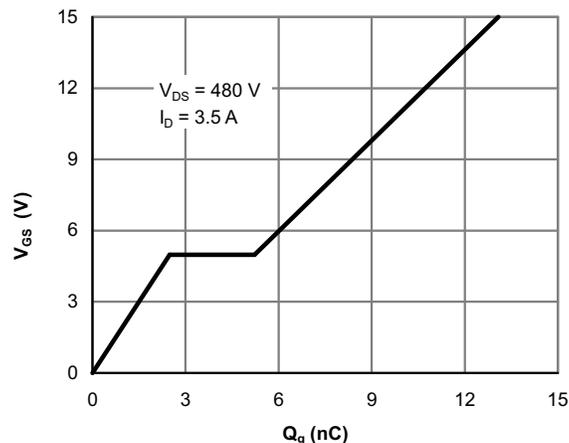

Figure 12. Gate-Charge Characteristics for MOSFET
- Qg1, Gate charge at 14 V drive (see Figure 12)